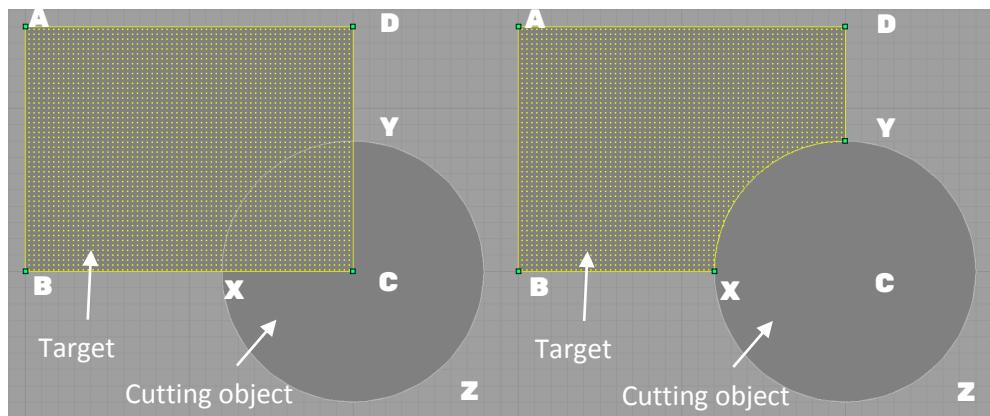

Figure 18. Using one surface to split another surface.
Split tool is able to operate line on surface, surface on line, surface on surface, depending on which object is used as the splitting tool. The region that is common to both the splitting tool and target will be removed from the target object. Figure 18 shows the operation of split tool for surface on surface. Let's say we need a geometry which has a rectangular shape with a circular cut at one corner. How can we create such geometries?
- a. Create a rectangle ABCD using the line tool (Section 6.1.2) and find a face (Section 6.2) as shown in Figure 18.